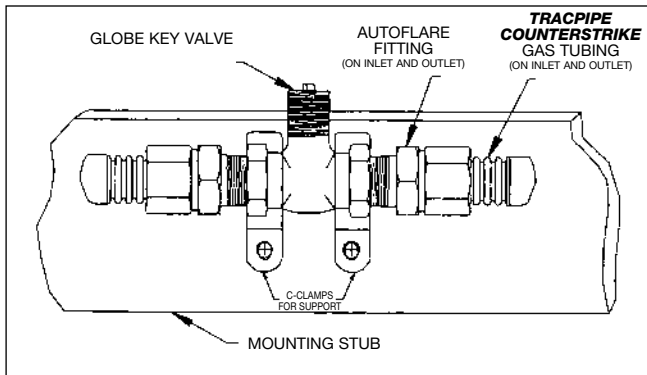

Figure: 4-14
- Flexible piping connections to fireplace “key valves” can be located in a concealed location, when accessibility is not readily provided. See Figures:4-14 and 4-15